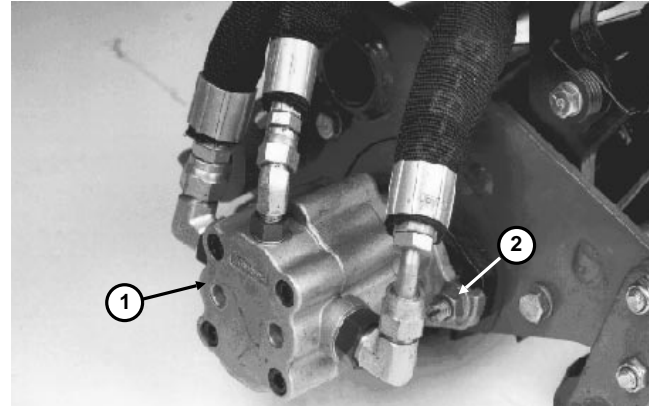

Figure 94
2. Loosen motor mount nuts (Fig. 94).